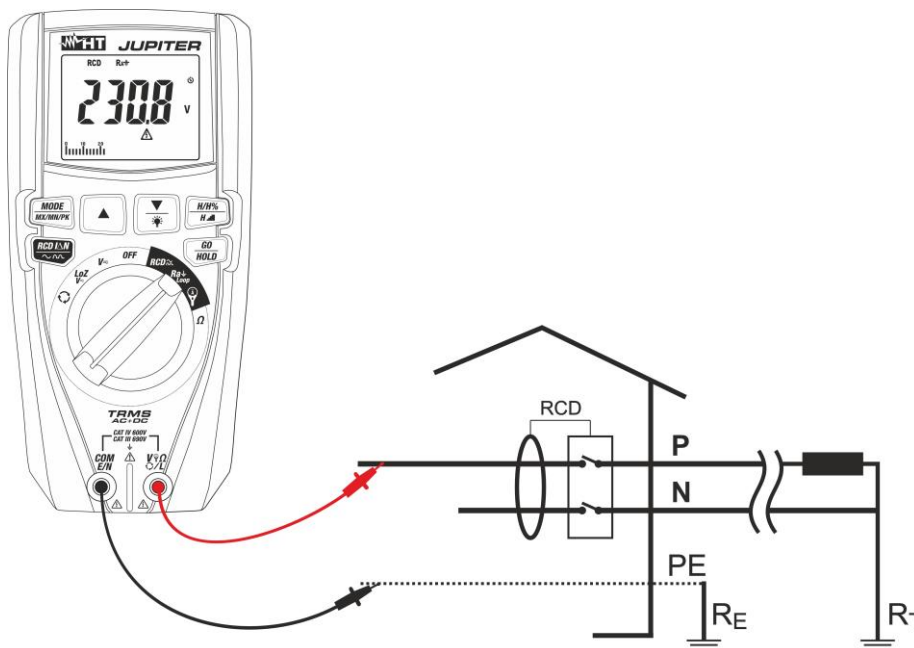

Fig. 18: Use of the instrument for measuring overall earth resistance with leads
6. In case measuring leads are used, insert the red conductor into input terminal **V $\overline{\Omega}$ L** and the black conductor into input terminal **COM/E/N** and connect the instrument to the system to be tested (see Fig. 18). The value of voltage Phase-Earth is shown on the display